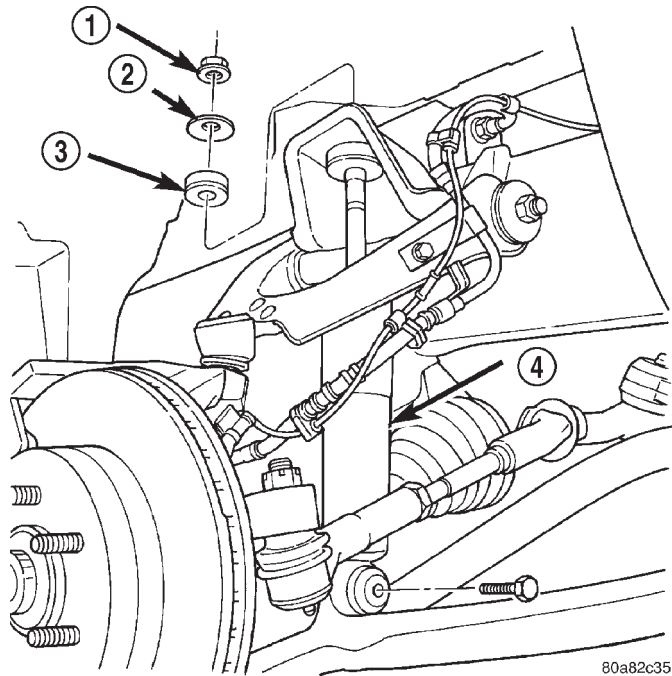

Fig. 4 Shock Absorber
- (1) Raise and support vehicle.
- (2) Remove the upper shock absorber nut, retainer and grommet (Fig. 4).
- (3) Remove the lower bolt and remove the shock absorber.